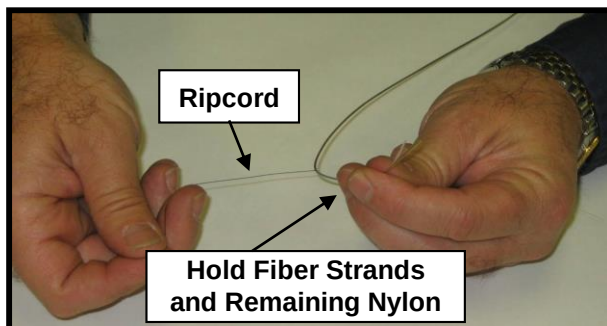

Figure 10
6.4.6 Key Step. With one hand, hold on to all fiber strands and any remaining Nylon jacket material. Refer to Fig. 10.